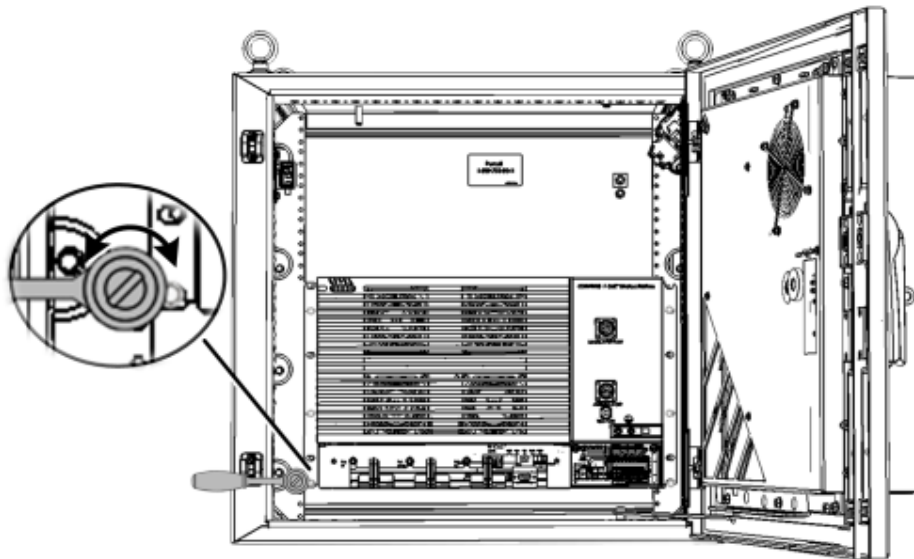

Figure 4-9. Securing MRU to Cabinet Rails
3. Position the bottom half slots of the MRU rack ears onto the protruding screws and tighten the screws using a ratchet wrench. Refer to Figure 4-9.